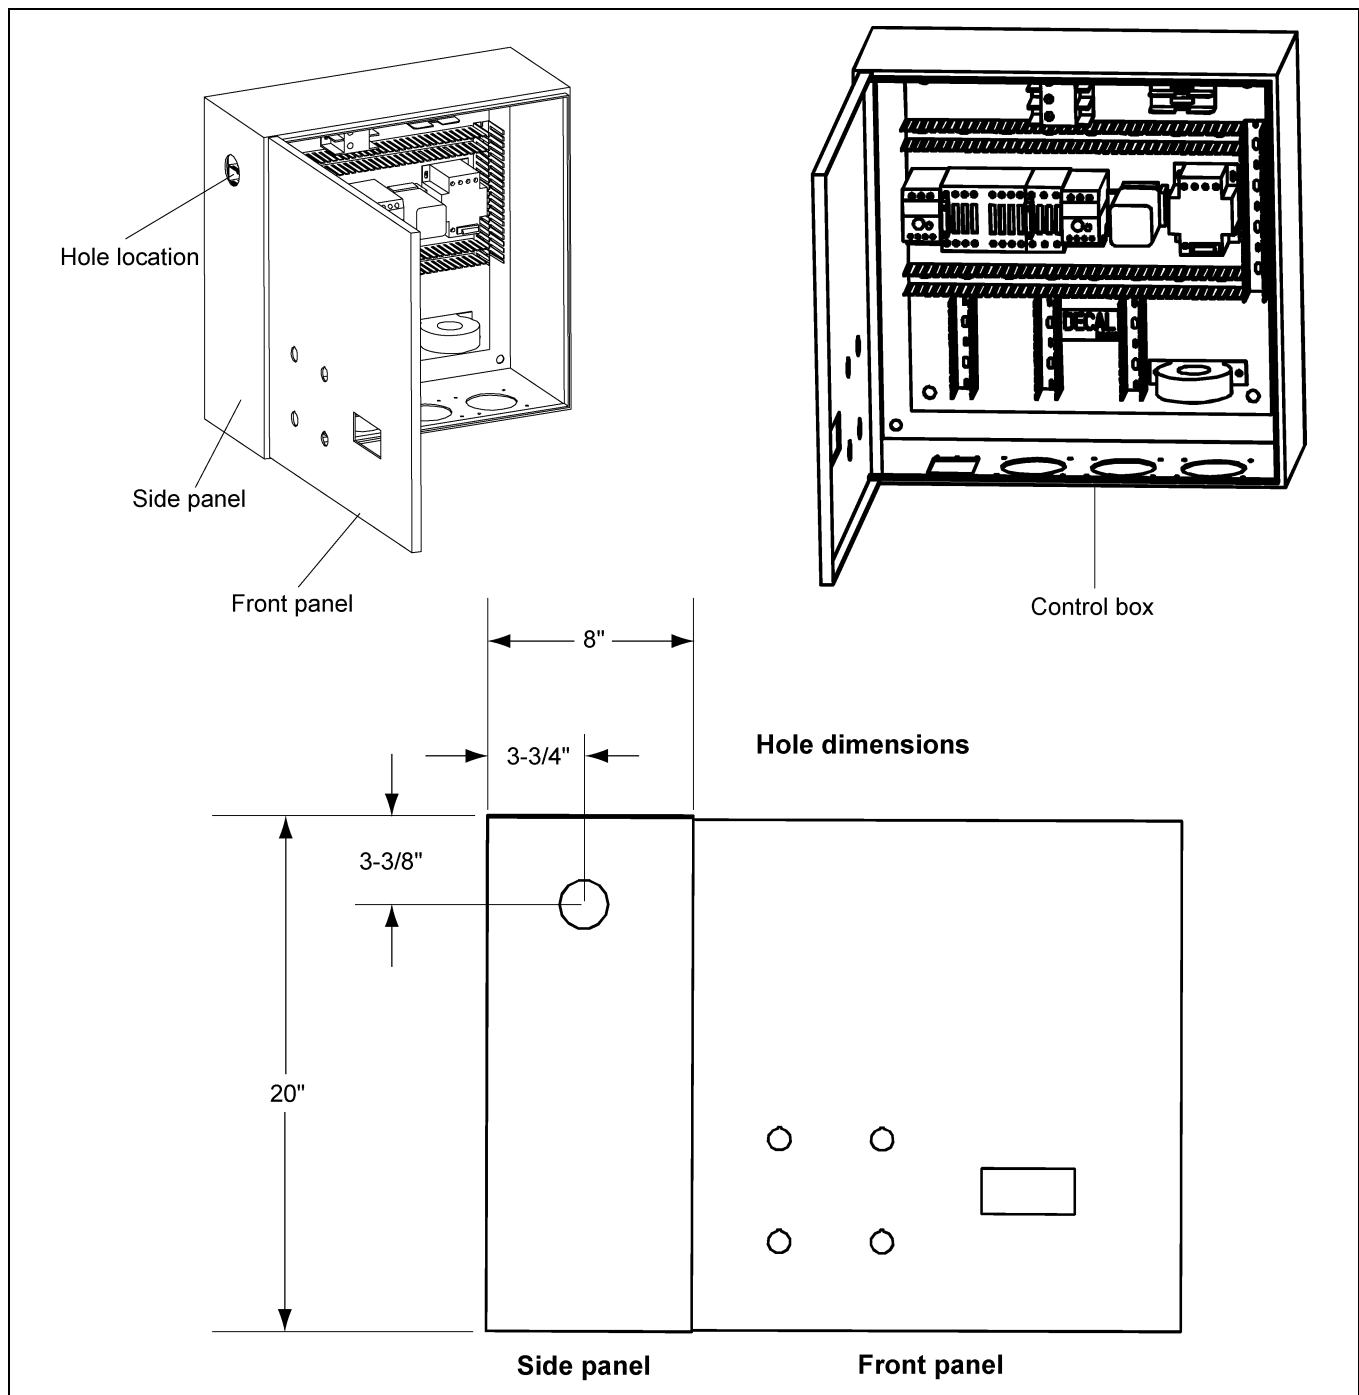

Figure 5B
1. Cut a hole into the side panel of the control box in the location shown in Figure 5B. Hole to be sized for 1-1/2" rigid conduit (approximately 1.900"). Make sure all metal chips/shavings are removed from the inside of the box.